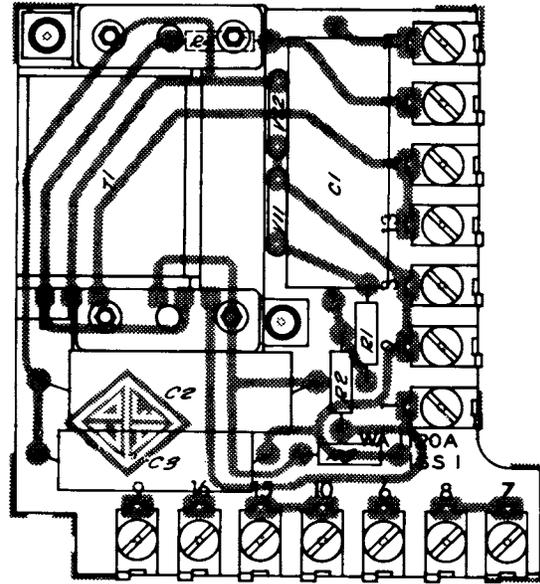
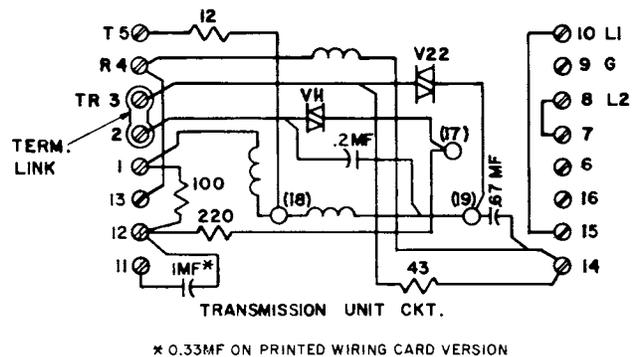
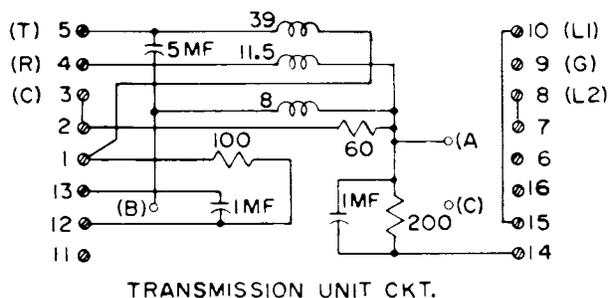

Figure 2. Printed Wiring Card, Self-Compensating Transmission Unit.
Figure 3. Schematic, Self-Compensating Transmission Unit.
Figure 4. Schematic, Transmission Unit For Manually Adjusted Telephone.
3.02 The Type 85 telephones have either a self-compensating or manually adjusted transmission unit. In a self-compensating telephone, the transmission unit automatically balances the impedance characteristics of the line, and reduces sidetone. In a manually adjusted telephone, a rheostat (loop compensator) is used to balance the impedance characteristics of the line, and reduce sidetone. Presently, the transmission unit used is a printed wire card; previous models used a potted type transmission unit. The circuit of both transmission units is the same, but the physical location of the various terminals differ. The physical location of the terminals of a printed wiring card transmission unit is shown in Figure 2. The schematic for both units is shown in Figure 3. The schematic used in manually adjusted telephones is shown in Figure 4.